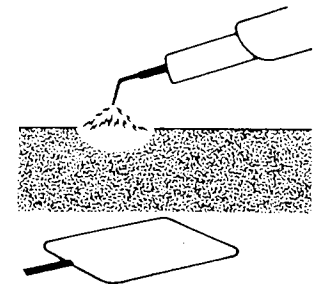

Figure 9
As seen in Figures 9 and 10, there are two types of coagulation:
- Monoterminal Coagulation – Uses the dispersive patient plate (also called a “return electrode” or an “indifferent electrode”) as seen in Figure 9.